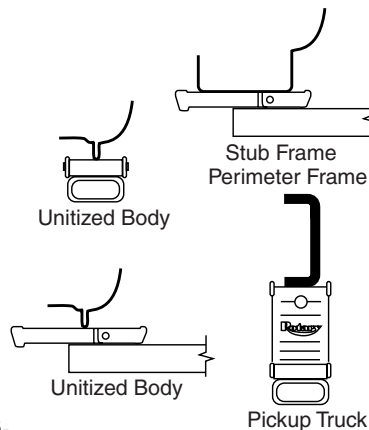

Fig. 4
3. Loading: Swing arms under vehicle and position adapters at vehicle manufacturer's recommended lift points, Fig. 4 and Fig. 5. Use intermediate, high step, or optional adapters for under body clearance when required.